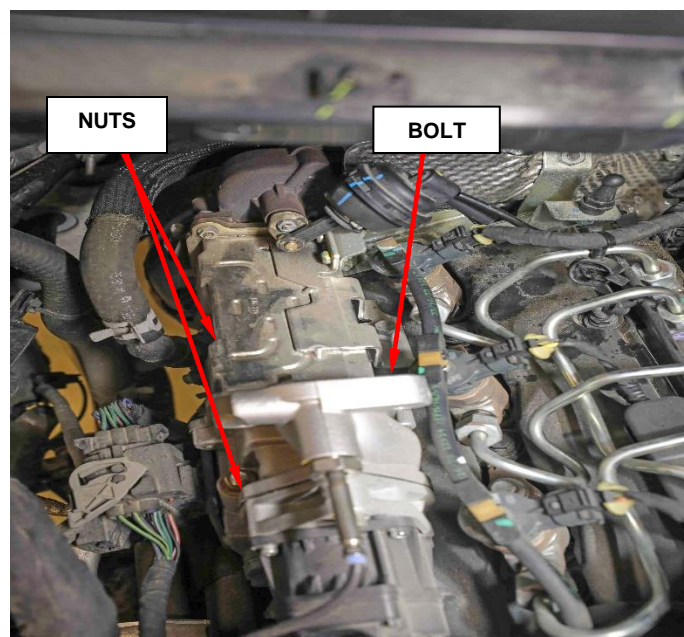

Figure 37 – EGR Mounting
18. Remove the two nuts and bolt and the EGR cooler assembly (Figure 37).